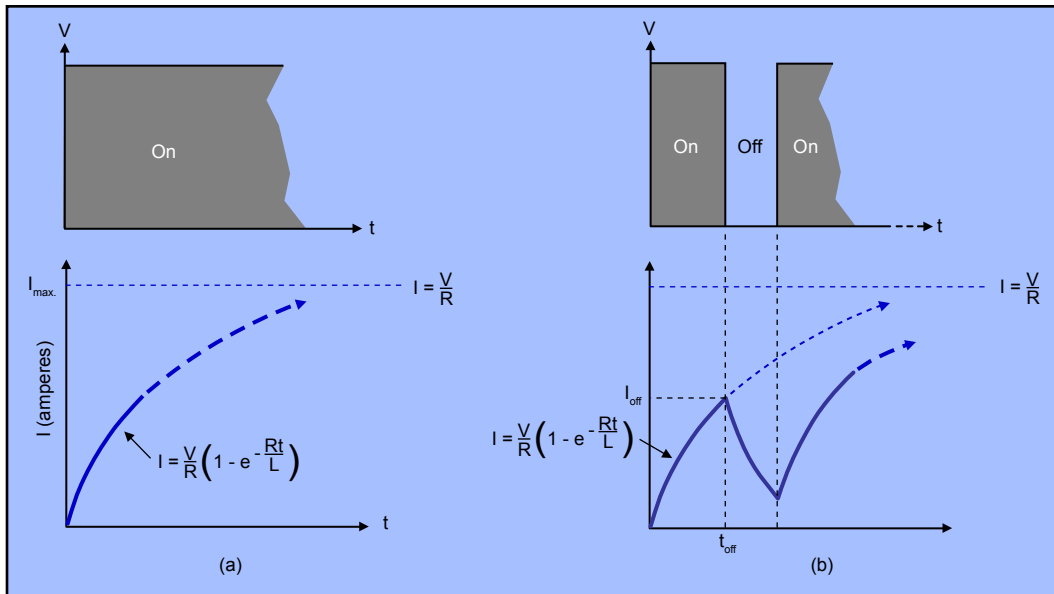

Figure A2. Linear versus PWM — Current behavior with a steady-state excitation in (a); Current behavior with PWM excitation in (b)
In addition to enhanced efficiency, PWM can play additional roles which include limiting the start-up current, controlling speed and controlling torque. The optimum switching frequency will depend on inertia and inductance of the brushless motor chosen and the application. The choice of the switching frequency affects both losses and the magnitude of the ripple current. A good rule of thumb is that raising the switching frequency increases the PWM losses. On the other hand, lowering the switching frequency limits the bandwidth of the system and can raise the heights of the ripple current pulses to the point that they become destructive or shut down the brushless motor driver IC. The ripple current pulses are depicted in Figure A2(a) and are discussed below.
Note that in (Equation 2), the current (I) at any moment is a function of both the back EMF (V_{BEMF}) and the time (t). The current when the motor is stopped ($V_{BEMF} = 0$) is illustrated in Figure A2(a) and is a familiar waveform for characterizing the current in any L-R circuit with its rise time governed by the time constant L/R .
Now let's exchange the steady-state excitation voltage for a PWM source, as shown in Figure A2(b). The current rises until the first ON pulse ends; when the voltage abruptly falls to zero at the end of the first applied voltage pulse, the current begins to decay towards zero. However, the next pulse will again drive the current upwards, and so forth, so that the current continues to rise. As the motor accelerates, the current waveform will exhibit a sawtooth profile. This sawtooth characteristic is also known as ripple. Because torque is directly proportional to current, the sequence of rising current pulses drive the motor, which develops a corresponding torque that accelerates the motor. But this is not so in the case of cycle-by-cycle current limit. Because in this case the current rise ceases immediately if the current reaches the limit value during any PWM pulse interval.